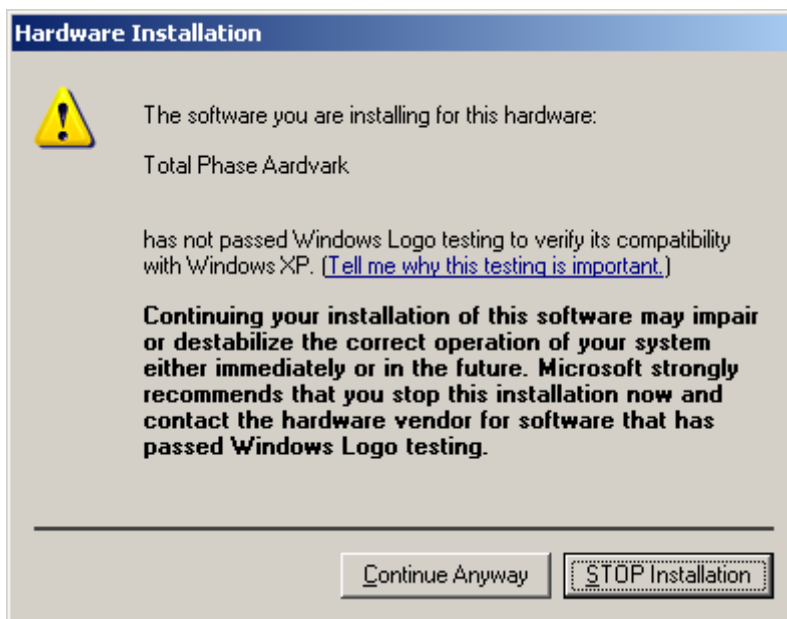

Figure 4 - Continue Anyway
7. The installation may then warn that the driver has not been tested for compatibility with Windows XP. If this occurs, click Continue Anyway as shown in Figure 4.